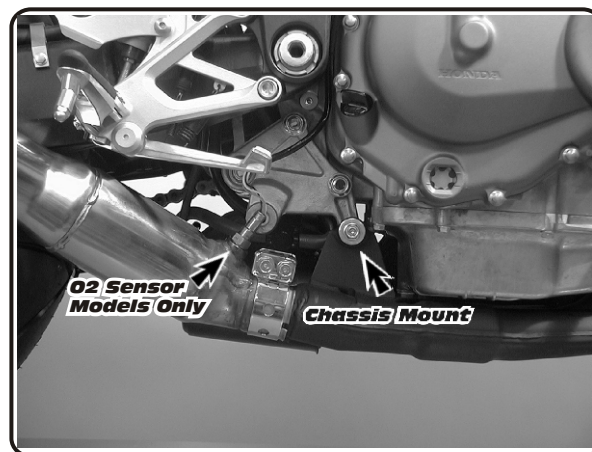

Fig. 2
- 1a Models with O2 Sensor Only: Unbolt Oxygen Sensor from tailpipe. (See Fig. 2)